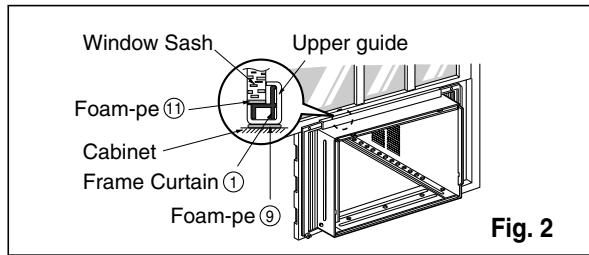

Fig. 2
2. Pull the bottom window sash down behind the upper guide until it meets. (See Fig. 2)